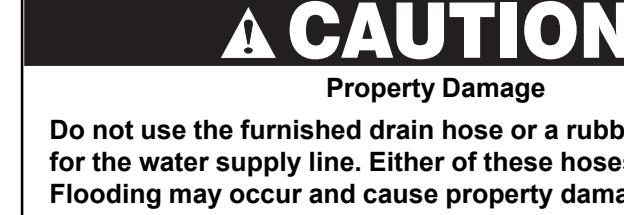

Figure 4
3. Determine amount of tubing needed to connect water supply to the unit's water inlet valve. Copper tubing with a minimum 3/8" OD. High-pressure and high-temperature plastic tubing with a minimum inner diameter of 3/8" is also used. A shut-off valve installed outside dishwasher is best. See Figure 4.